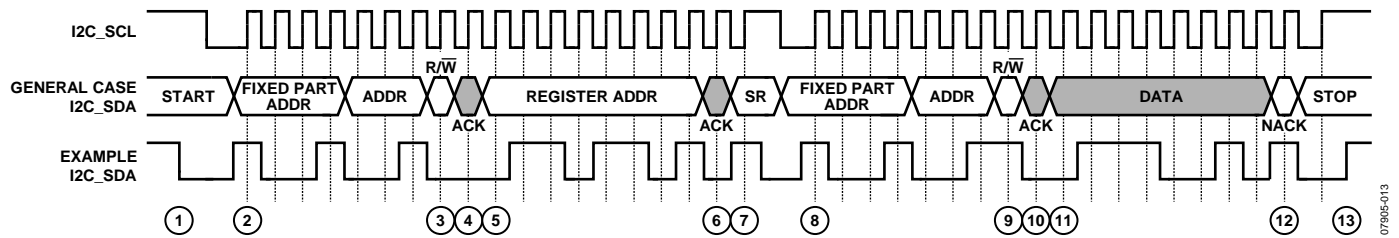

Figure 33. I²C Read Procedure
To read data from the ADV3002 register set, an I²C master (such as a microcontroller) needs to send the appropriate control signals to the ADV3002 slave device. The signals are controlled by the I²C master unless otherwise specified. For a diagram of the procedure, see Figure 33. The steps for a read procedure are as follows:
3. Send the write indicator bit (0).
7. Send a repeated start condition (SR) by holding the I2C\_SCL line high and pulling the I2C\_SDA line low.
9. Send the read indicator bit (1).
- a. Send a no acknowledge (NACK) followed by a stop condition (while holding the I2C\_SCL line high and pulling the SDA line high) and release control of the bus to end the transaction (shown in Figure 33).